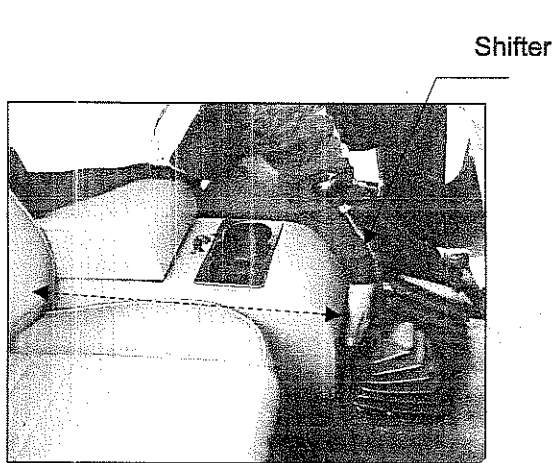

Figure 3
3. Place the Console to ensure that it does not obstruct the shifter in all gears (Figure 3).